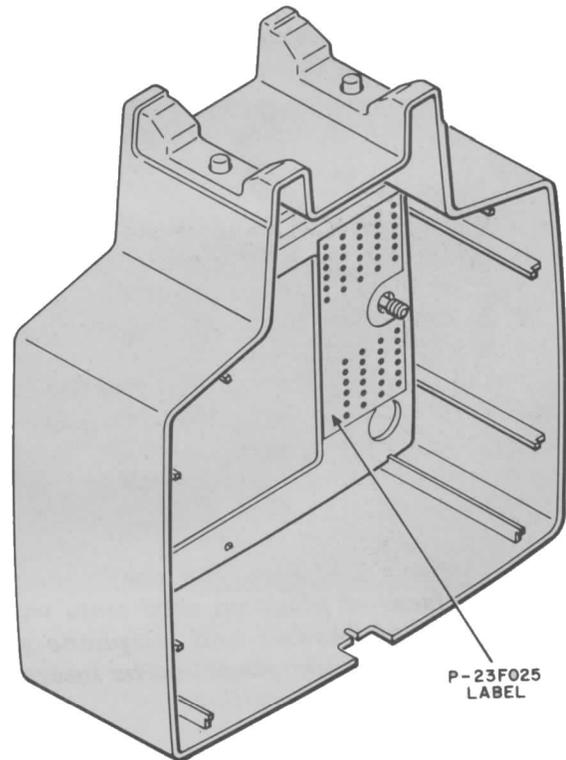

Fig. 11—Connecting Block Wiring Label
3.08 Since individual terminals are not designated on the quick-connect blocks, a label is provided on the inside of the housing as a wiring guide (Fig. 11). Terminals 1-30 are on the upper block and 31-54 are on the lower block. Terminals 51-54 are spare. Use a 714B tool to terminate conductors.